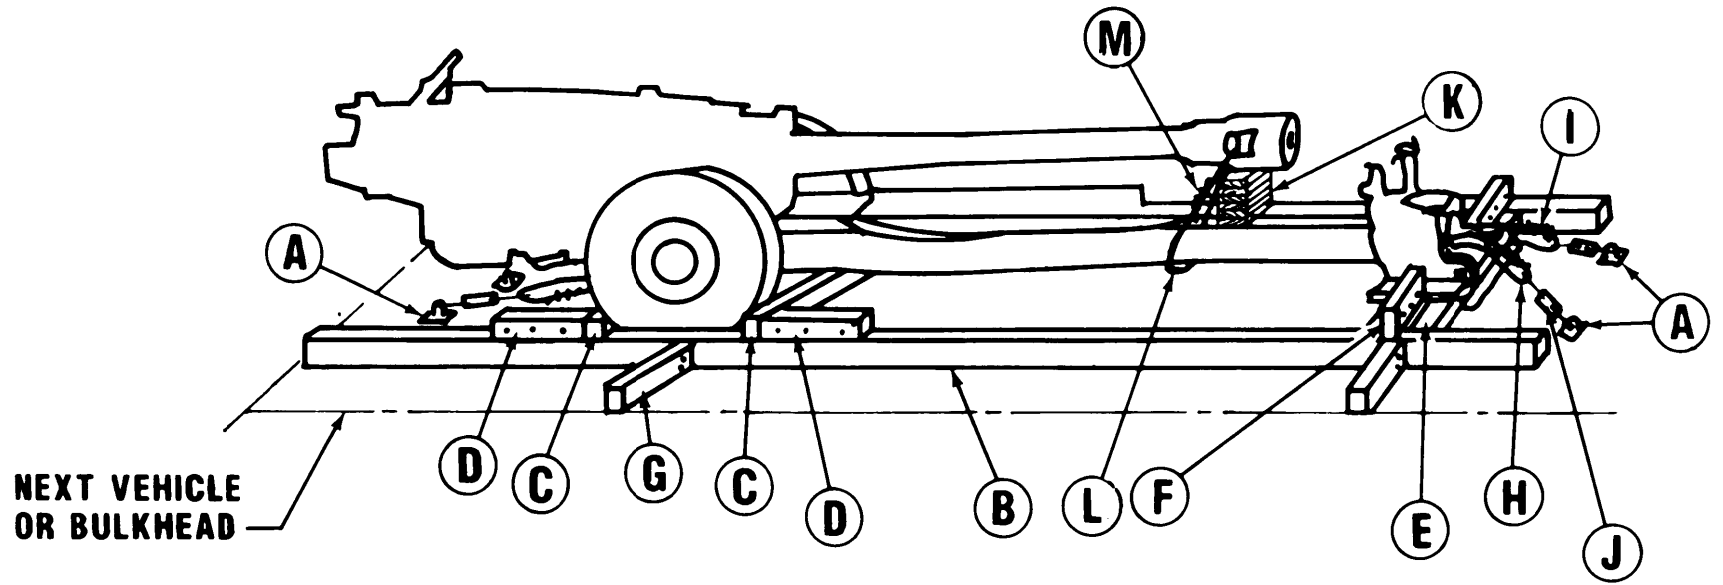

Figure 6-1. Blocking and tiedown of M119 in general cargo vessel.
- d. *Tiedown.* Figure 6-1 shows the typical blocking and tiedown details for the M119. The bill and application of materials are in tables 6-1 and 6-2, respectively.
Table 6-1. Bill of Materials for Blocking and Tiedown of M119 in General Cargo Vessel (Fig 6-1)
Table 6-2. Application of Materials for Blocking and Tiedown of M119 in General Cargo Vessel (Fig 6-1)
a. M119's can be transported in SEABEE barges and LASH lighters, with hatch covers in place. When M119's are transported in SEABEE barges or LASH lighters, they must be secured with blocking and tiedowns as shown in figure 6-1 and materials applied as indicated in tables 6-1 and 6-2.